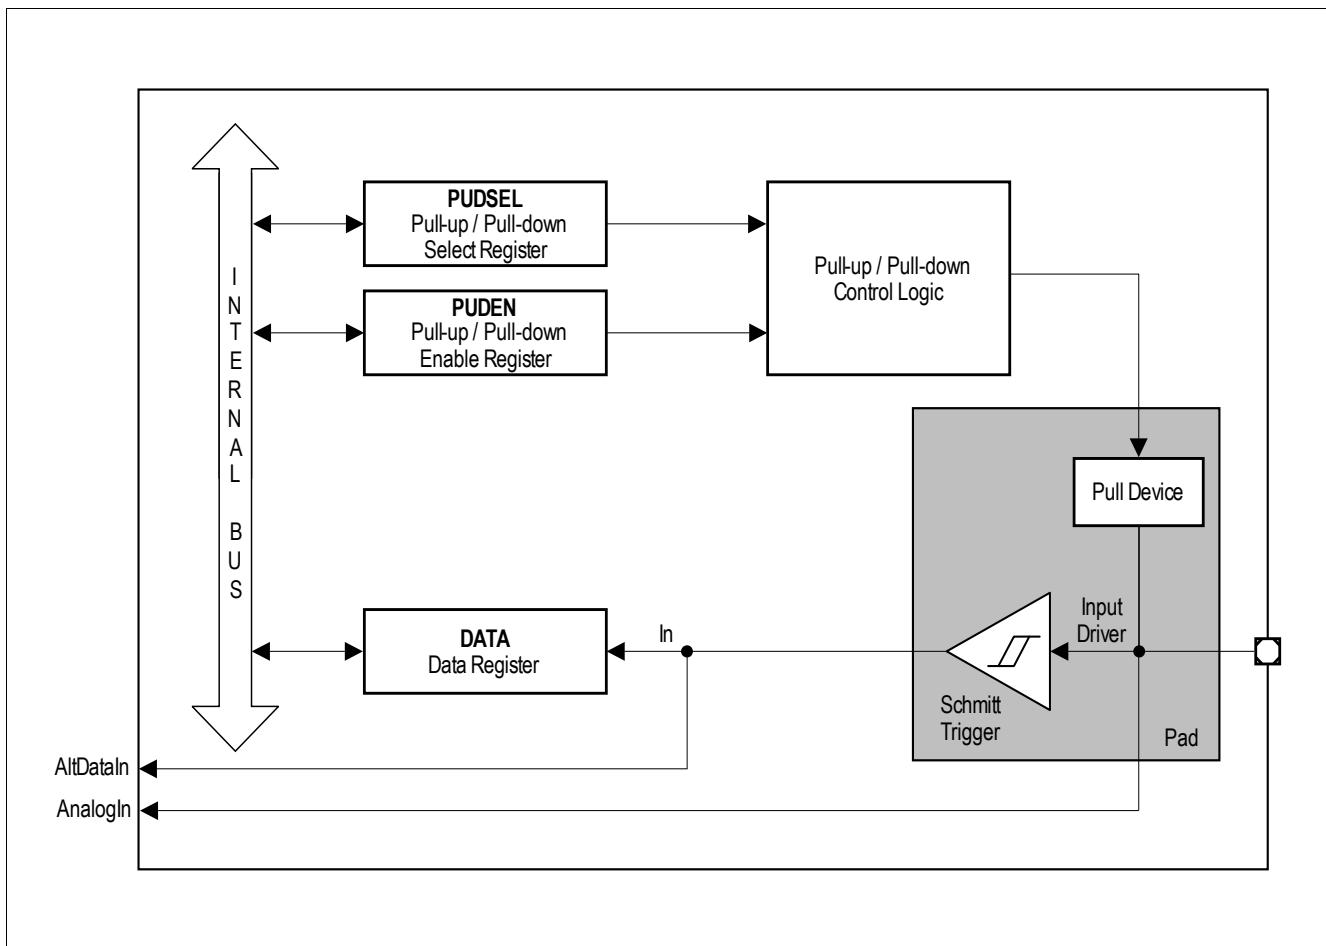

Figure 18 General Structure of Input Port (P2)
**Figure 18** shows the structure of an input-only port pin. Each P2 pin can only function in input mode. Register P2\_DIR is provided to enable or disable the input driver. When the input driver is enabled, the actual voltage level present at the port pin is translated into a logic 0 or 1 via a Schmitt trigger device and can be read via register P2\_DATA. Each pin can also be programmed to activate an internal weak pull-up or pull-down device. Register P2\_PUDSEL selects whether a pull-up or the pull-down device is activated while register P2\_PUDEN enables or disables the pull device. The analog input (AnalogIn) bypasses the digital circuitry and Schmitt trigger device for direct feed-through to the ADC input channels.